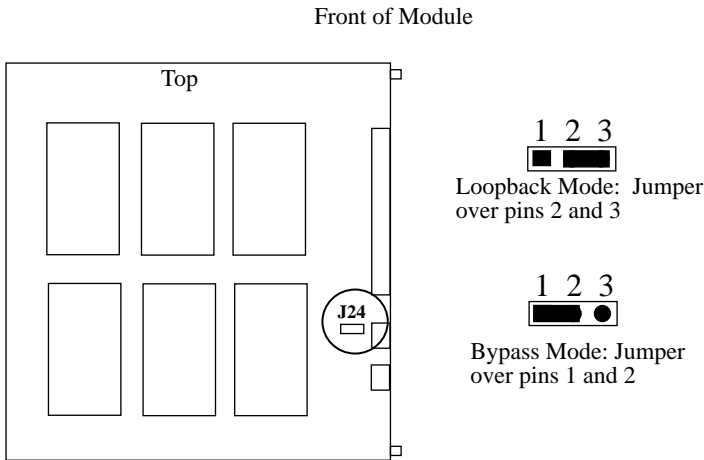

Figure 2-2 Network Bypass Jumper
The CSMIM-T1 has an internal jumper that is used to select a bypass mode for the T-1 Engine. The T-1 engine will go into a bypass mode when the MMAC hub is powered down, reset, or when the CSMIM-T1 module is removed from the hub. This jumper is labelled J24, and is located on the modem board, just behind the T-1 Network Interface port (See Figure 2-2).
3. Slide the CSMIM-T1 (Figure 2-2) into the desired MMAC slots.